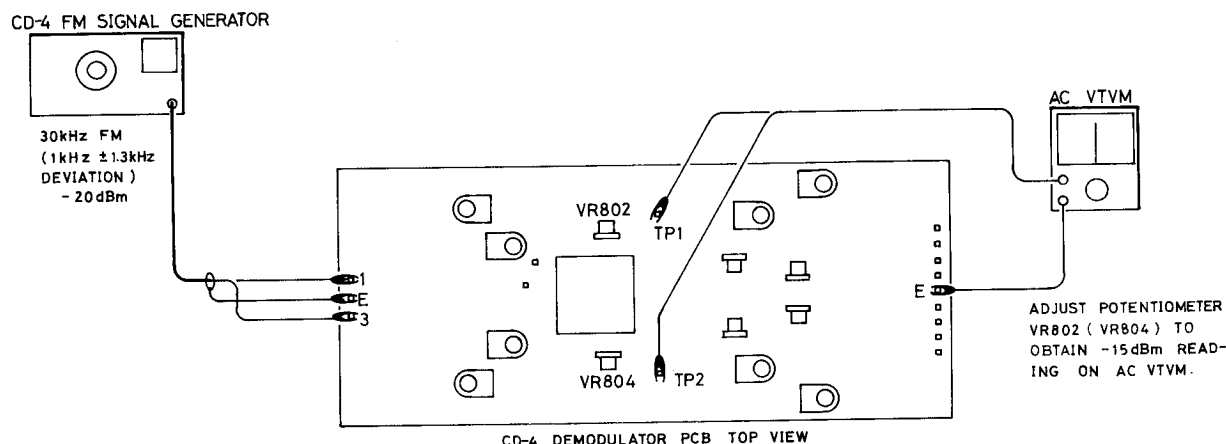

Figure 11. EXPANDER INPUT LEVEL ADJUSTMENT HOOK-UP
- a. Apply 30KHz FM signal (1KHz,  $\pm 1.3$ KHz Devi.) to sub-channel input. Set applying level to 200dBm. See Figure 11.